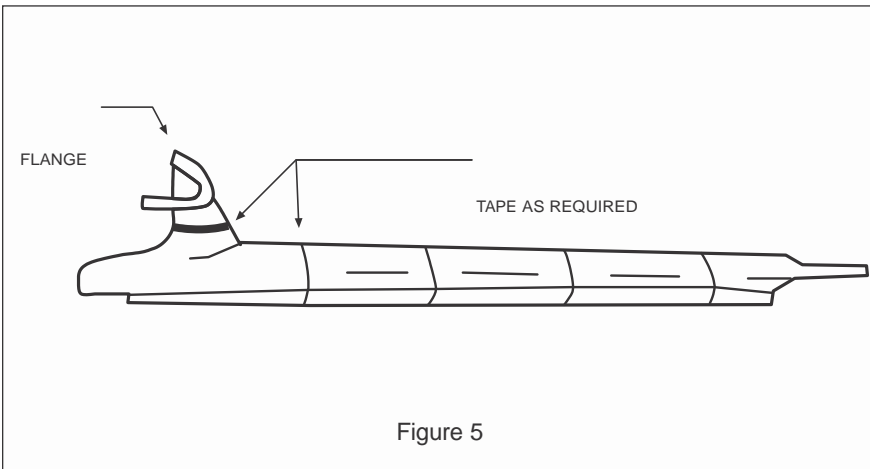

Figure 5
16. Fold new bladder lengthwise and tape at necessary intervals (Fig. 5).